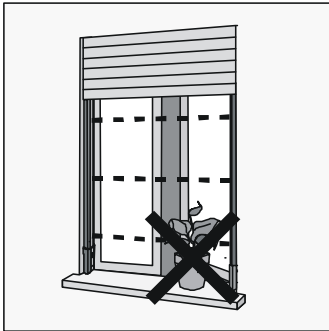

fig. 4
- With no fixed or movable obstacles that interrupt the beams (fig. 4)